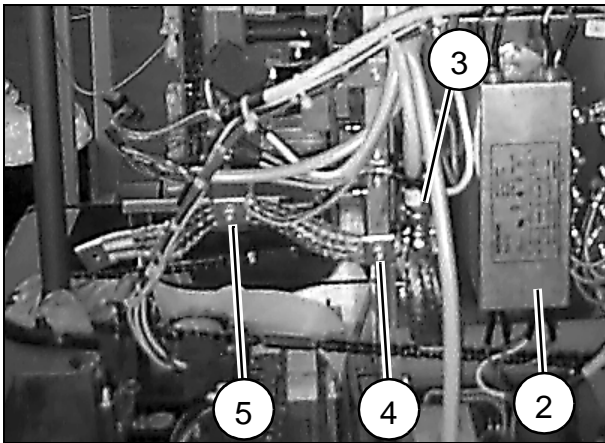

Fig. 5
- Remove the grounding strap from the heat sink (5/Fig.5).
- Remove all protective conductors from the base plate of the line filter (2/Fig.5).
- Remove the BNC connector (X1) and remove the screws from the BNC plug (3/Fig.5).
- Unscrew the grounding strap from the base plate (4/Fig.5).